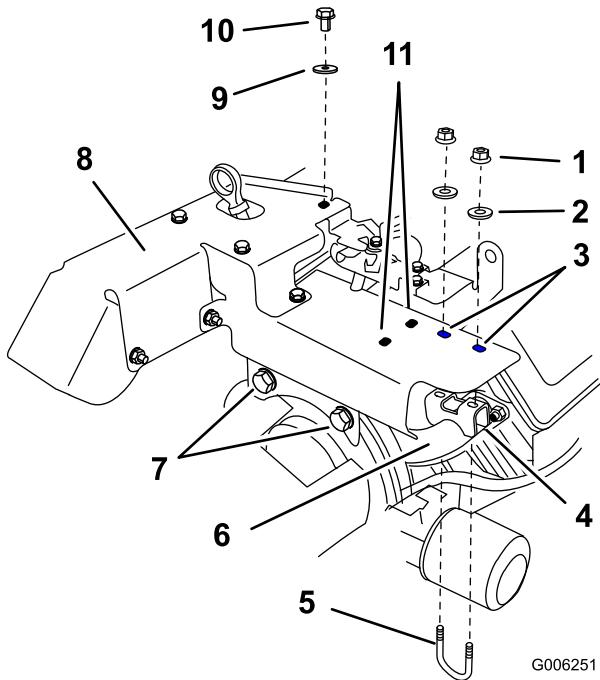

Figure 4
4. Install the heat shield to the top of the engine with a bolt (#10 x 1/2 inch) and a flat washer (7/32 inch) (Figure 4).
6. Determine the correct position to install the muffler clamp. Refer to Figure 4 for the correct position and serial numbers.
7. Install the muffler clamp to the exhaust manifold with a U-bolt, 2 flat washers (5/16 inch), and 2 flange nuts (1/4 inch) (Figure 4).